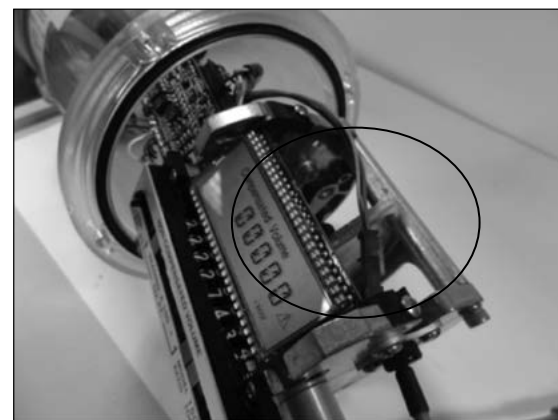

Figure 13.11 - Squeeze connector to release and make the wire connection.
- Squeeze the connecting end of the wires (as circled in Figure 13.11) to release the cord from the receiving end.
- Using the wire from the replacement temperature probe, squeeze the receiving end of the wire and slide the connecting end into place. (See Figure 13.11)